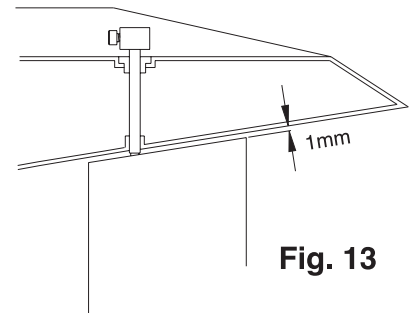

Fig. 13
4. Position the steering arm to allow a 1mm gap between the top of the rudder and the bottom of the hull as shown in Fig. 13.